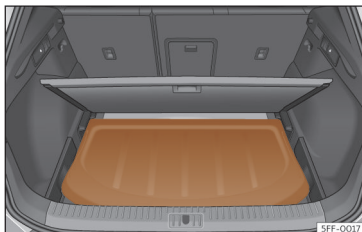

Fig. 114 In the luggage compartment: fitting the rear shelf.
- Place the rear shelf in the corresponding housing» **Fig. 114.**